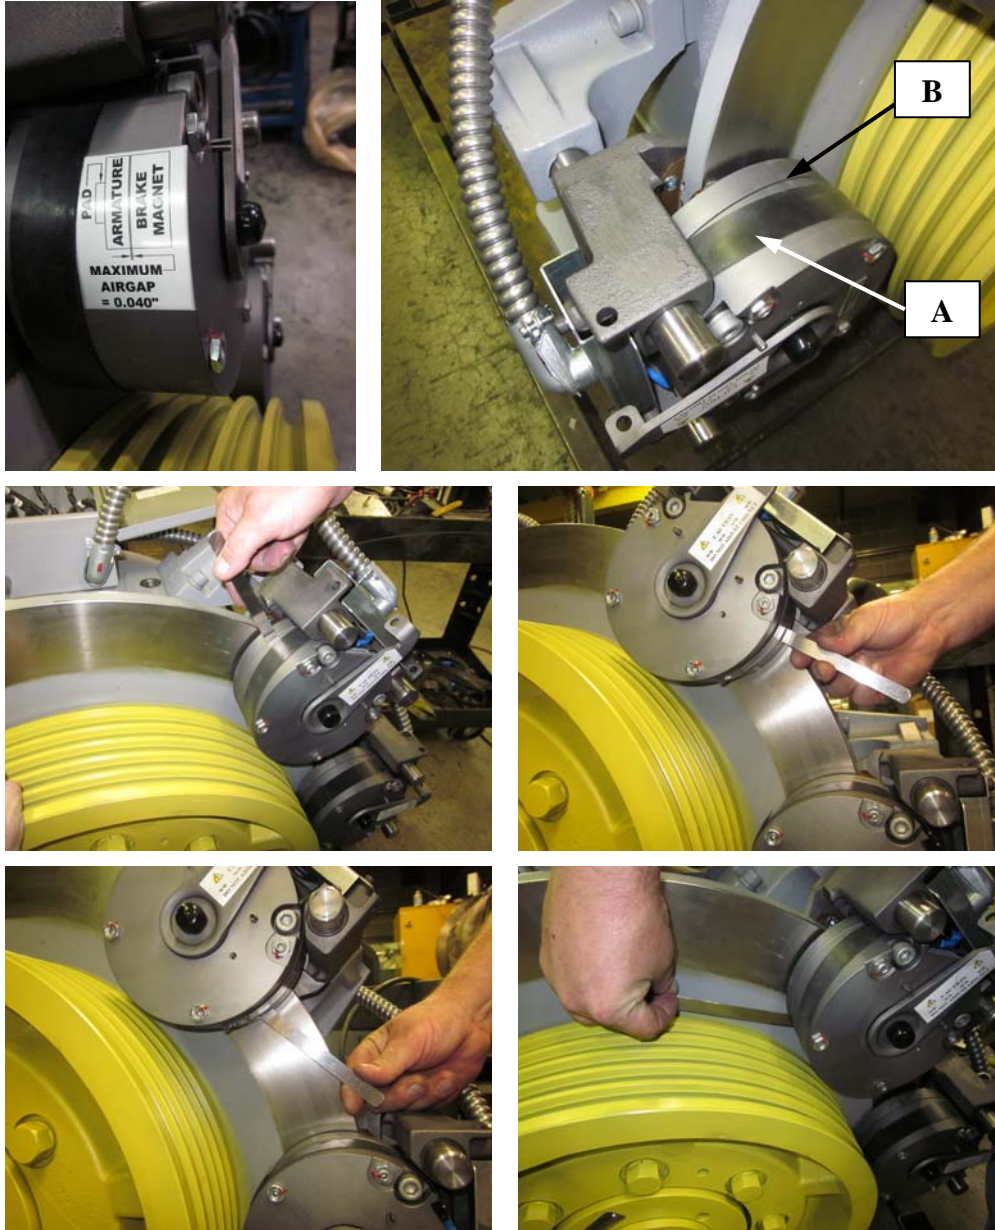

Figure 21: *****IMPORTANT!!!** Brake average air gap must not exceed 0.040 inch. *******
- **IMPORTANT:** With Brake de-energized - move rubber dust shield "A" to expose Air Gap "B". See Figure 21 below. Air Gap at "B" should be less than .040". Brake under pressure from counterweight load may exhibit uneven air gap. Check air gap at 4 places around brake and average the readings. If average air gap measures greater than .040", consult Hollister-Whitney.